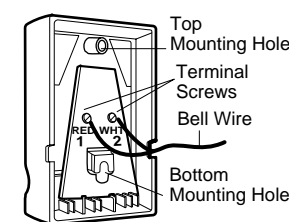

Figure 4
2. Remove white cover by gently pushing both thumbs against upper corners of cover on back side of door control (Fig. 4). Fasten with 6ABx1-1/4" self-tapping screws (standard installation) or 6-32x1" machine screws (into gang box) as follows: